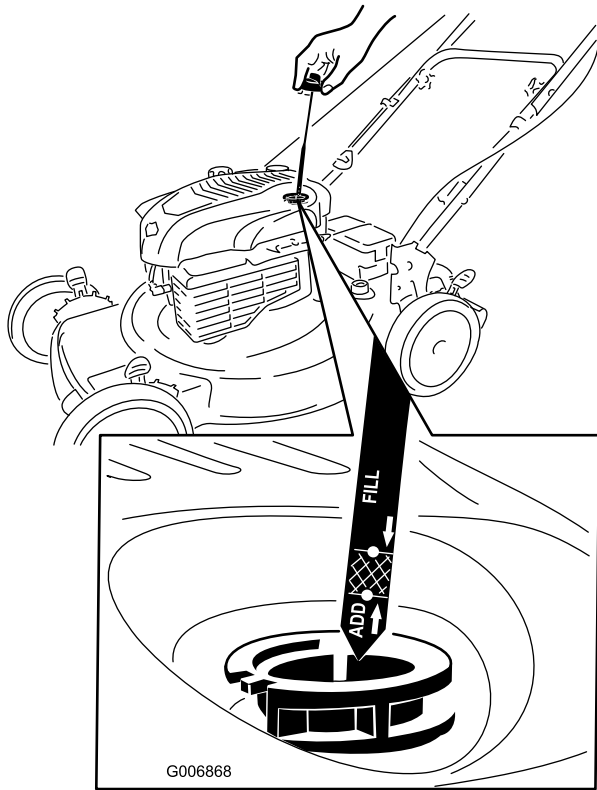

Figure 13
1. Remove the dipstick, wipe it clean, and fully install the dipstick (Figure 13).
2. Remove the dipstick and check the oil level (Figure 13). If the oil level is below the **Add** mark on the dipstick, **slowly** pour oil into the oil fill tube to raise the oil level to the **Full** mark on the dipstick.